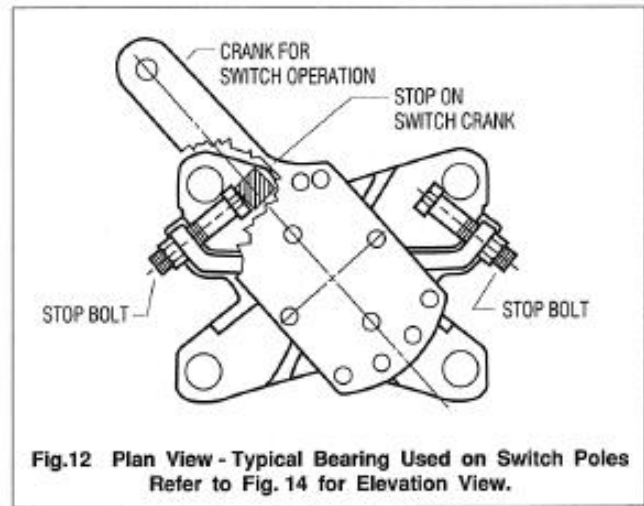
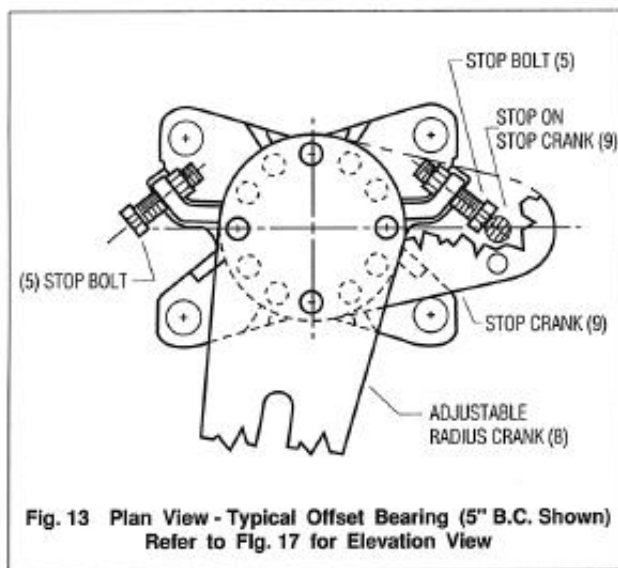
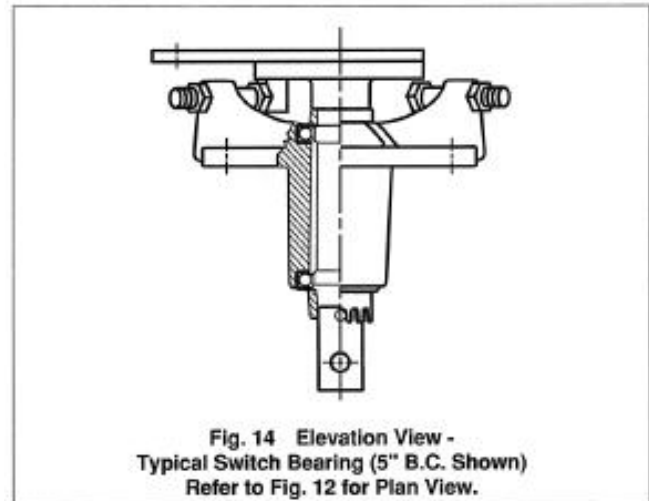

Fig. 12 Plan View - Typical Bearing Used on Switch Poles Refer to Fig. 14 for Elevation View.
Fig. 13 Plan View - Typical Offset Bearing (5" B.C. Shown) Refer to Fig. 17 for Elevation View
Fig. 14 Elevation View - Typical Switch Bearing (5" B.C. Shown) Refer to Fig. 12 for Plan View.
The bearing of each switch and offset bearing is a greaseless type. Fig. 12 shows the location of stop bolts and switch cranks on all switch bearings. Fig. 13 shows the required location of stop blots (5) and stop cranks (9) with a typical location of the adjustable radius crank (8) on the offset bearing. Fig. 14 is an elevation view of a switch bearing.